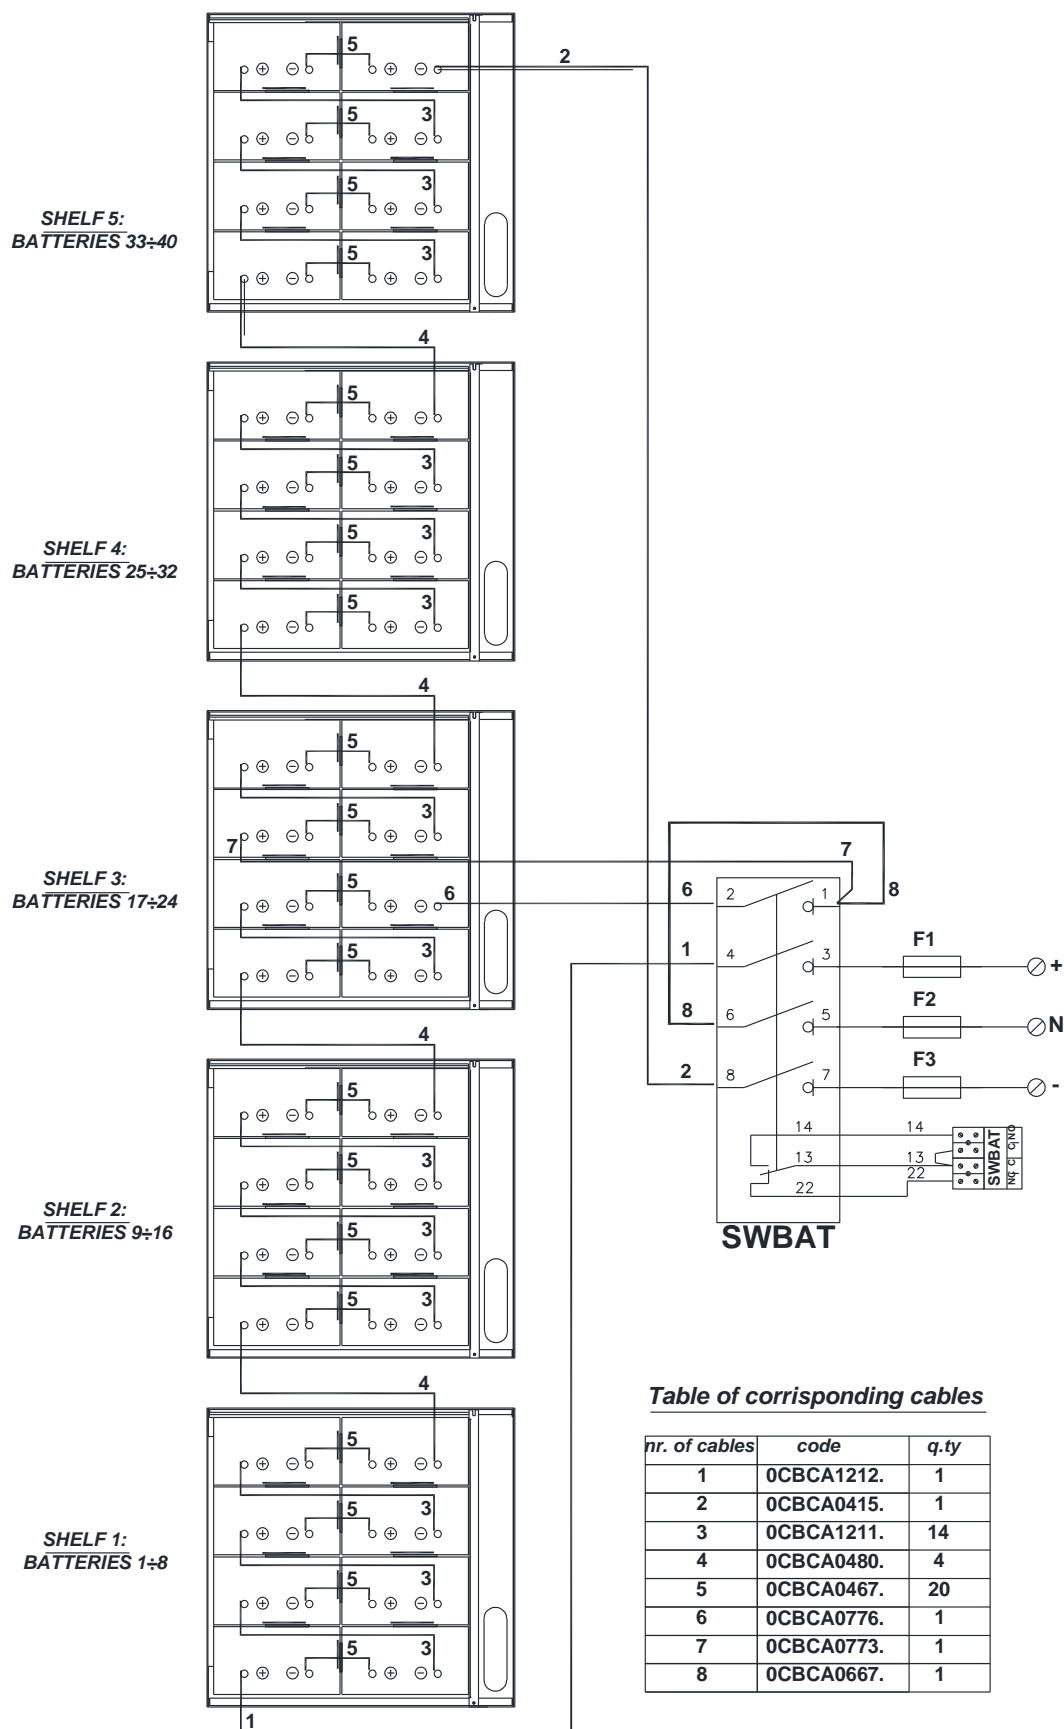

Fig. 3
- Connect the batteries and switch with the supplied cables as per Fig. 3, relative to the two types of connection: